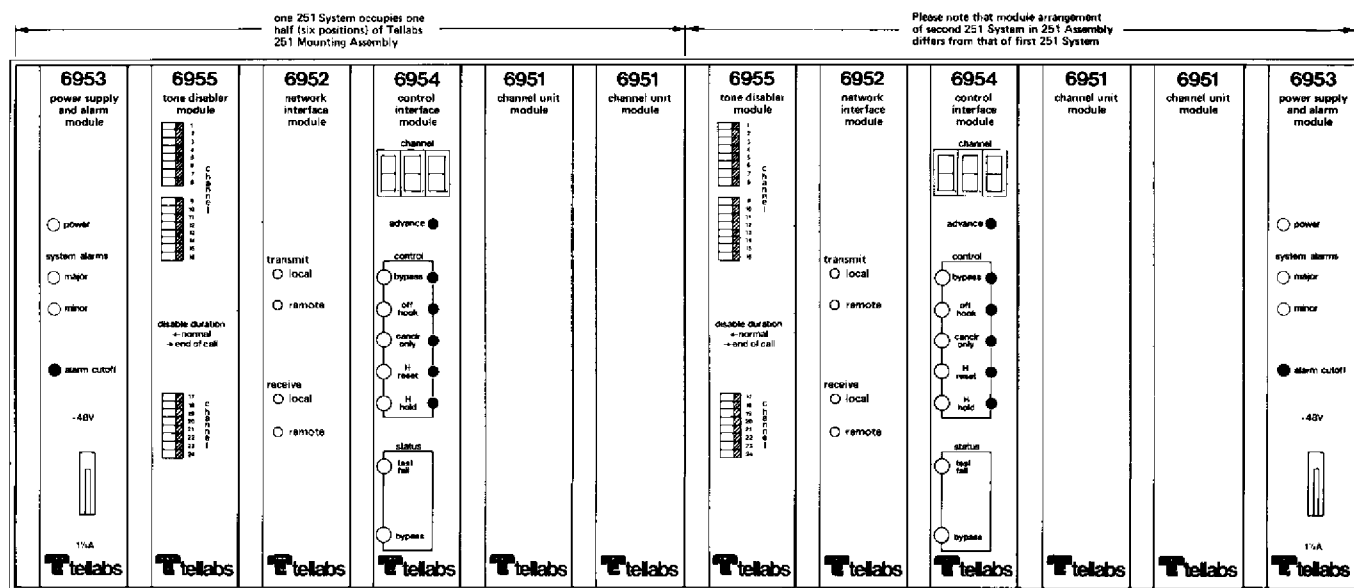

figure 2. Front detail of typical 251 System (Note: Two Systems, each containing the optional 6955 module, are shown in the same 251 Assembly)
1.08 Compact in size, an entire 251 System comprises only six Tellabs Type 16 modules (five modules if a tone disabler is not desired) and a prewired mounting assembly, as shown in figure 2. Each of these System components is described briefly below.
2.05 All internal System control functions originate in, and all externally derived System control functions are handled through, the 6954 Control Interface Module. Pushbutton switches and LED's on the 6954's front panel (see figure 2) provide the means for programming both System and individual-channel operating parameters (in effect, optioning the System for its particular application). These codes are stored in a special nonvolatile memory that retains all stored information even if power to the 251 System fails. After the desired operating parameters are programmed, the 6954's pushbuttons and LED's can be used to display the status of these parameters at any time. Specifically, the *channel* LED window and *advance* pushbutton are used to select and display the channel number, and the *five control* and two *status* LED's indicate the selected channel's status. The five pushbuttons associated with the *control* LED's are used to control the indicated functions. Options that can be